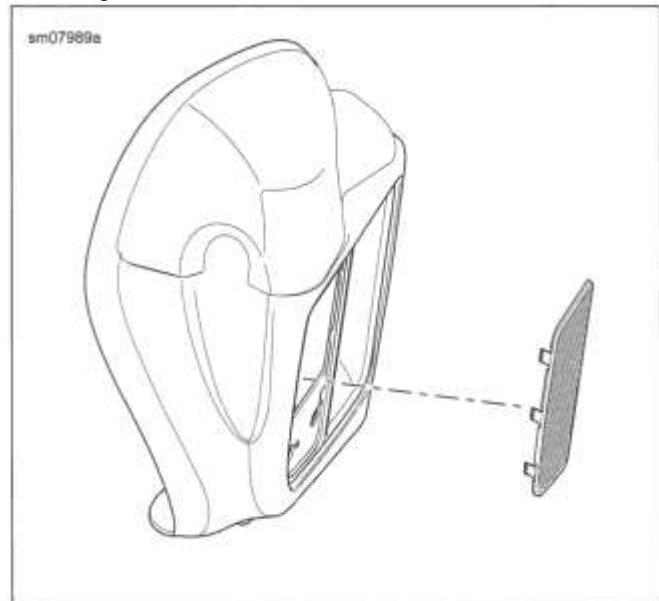

Figure 2-31. Lower Fairing Grille Panel
1. See Figure 2-31. Remove grille panel from lower fairing.